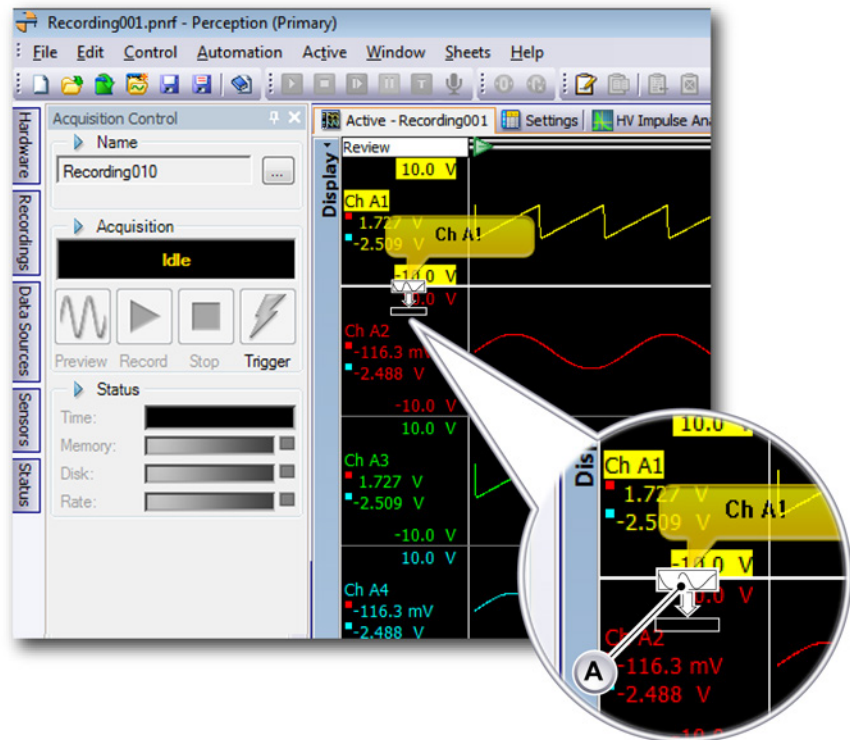

Figure 6.15: Drag trace over pane separator
- 2 Drag it over a pane separator as shown in Figure 6.15.